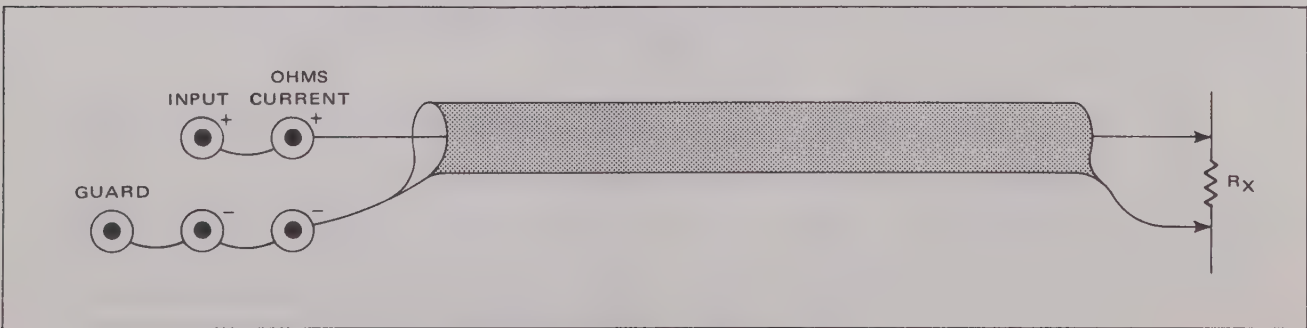

Figure 2.5 - Two-Wire Ohms Measurement
2.28 Connection for a simple two-wire shielded ohms measurement is shown in figure 2.5. It consists simply of a single-conductor shielded cable with the conductor serving as both the + CURRENT and + INPUT leads and the shield carrying – CURRENT and – INPUT. While reasonably accurate measurements can be made with this method, shunt leakage problems result from the parallel combinations of R_X and the cable impedance. This causes loss of accuracy, especially at high resistance (10 M Ω range).